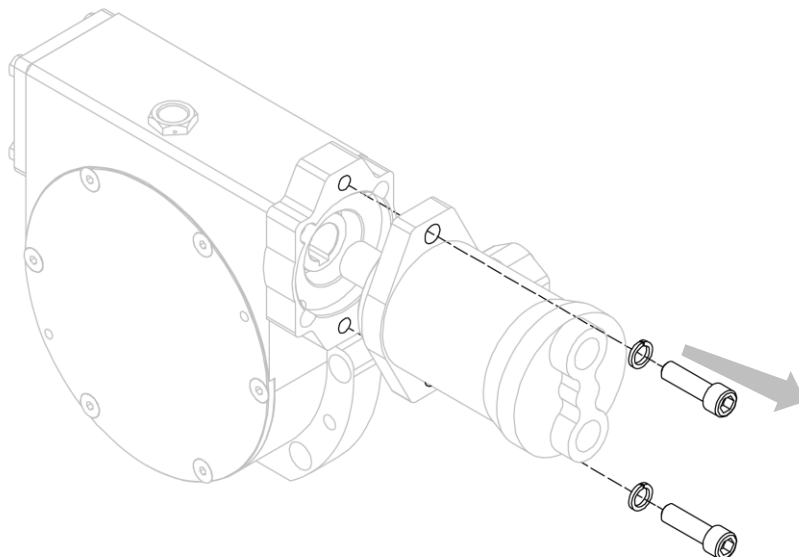

Figure 43
4. Separate the motor from the gearbox, after having removed the bolts that secure it (see *Figure 43*).